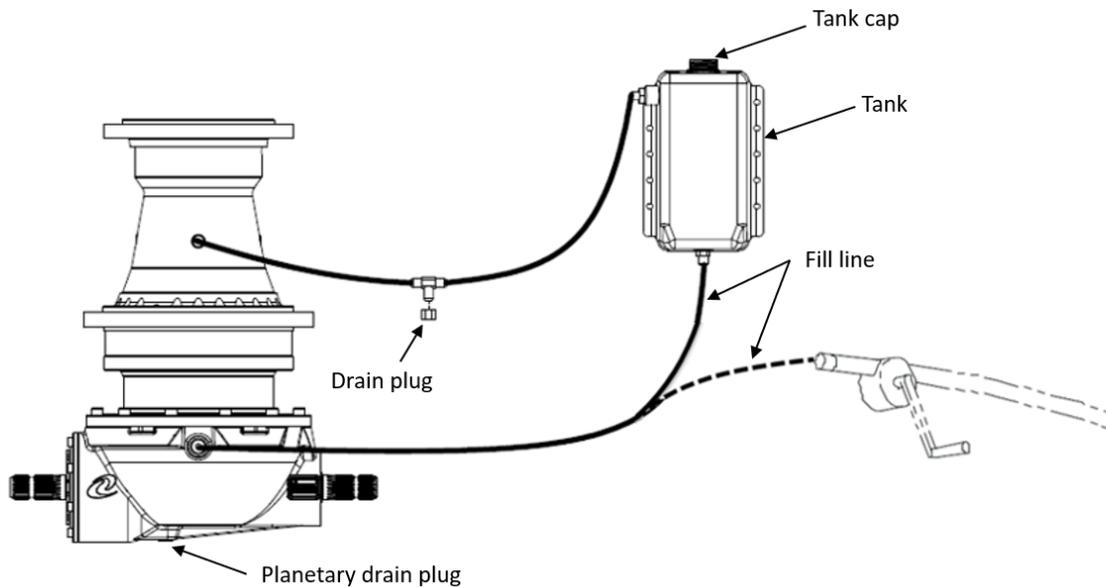

Figure 54 — Oil Tank
1. Remove the oil tank cap (Figure 54).
1. Remove the drain plug that is all the way underneath the planetary (Figure 54). The oil will drain out. Collect it in a container.
1. Unscrew the drain plug on the hydraulic T fitting under the mixer (Figure 54). This prevents excess pressure from building up inside the planetary as it fills.
7. Unscrew the hydraulic hose under the tank and connect a properly calibrated pump (Figure 54). Adjust the pump so that its flow and pressure are very low to avoid creating excess pressure inside the planetary.